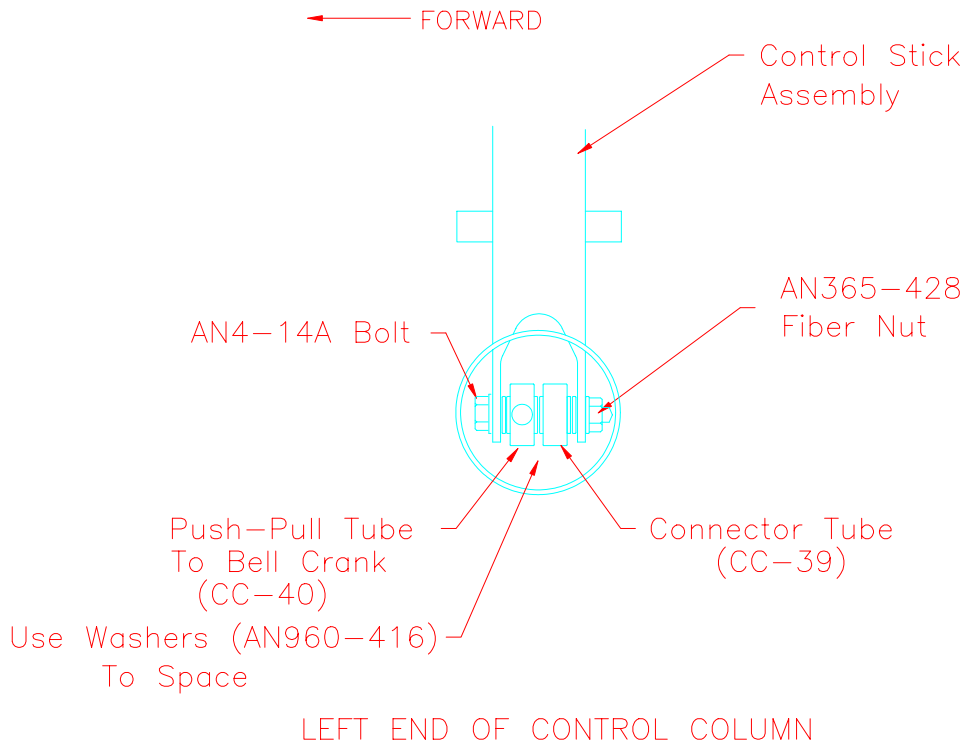

Figure 15.6.12
17) Attach one end of the push-pull tube to the pilots stick along with the connector tube. Use a couple of washers (AN960-416) if necessary to take up some space. Figure 15.6.12.